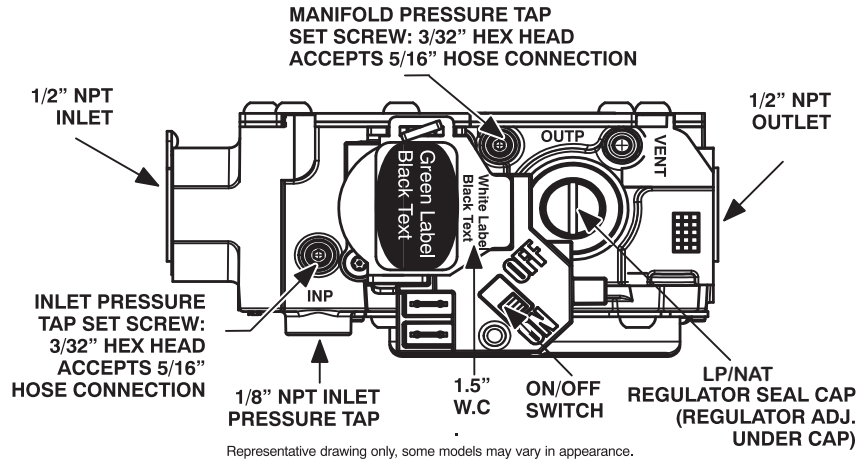

Fig. 2 – Low Capacity Gas Valve with Tower Pressure Ports
2. Loosen set screw on inlet tower pressure tap no more than one full turn with a 3/32-in. hex wrench. (See Fig. 2.)
3. Connect a manometer to the inlet pressure tap on gas valve using a 5/16" hose. (See Fig. 2.)
13. Remove manometer and hose from the inlet pressure tap of the gas valve. (See Fig. 2.)
14. Tighten set screw on inlet tower pressure tap with 3/32-in. hex wrench. (See Fig. 2.)
- b. Loosen set screw on manifold tower pressure tap no more than one full turn with a 3/32-in. hex wrench. (See Fig. 2.) Connect manometer by sliding 5/6" connecting hose over the manifold tower pressure tap.
1. Remove regulator cover screw over plastic adjustment screw on gas valve (see Fig. 2).
2. Turn plastic adjustment screw clockwise to increase gas input, or turn plastic adjustment screw counterclockwise to decrease input (see Fig. 2). Manifold pressure must be between 3.2 and 3.8 IN. WC.
3. Replace regulator cover screw on gas valve (see Fig. 2).
- b. If using the tower pressure port, remove connecting hose. Tighten set screw on manifold pressure tap using a 3/32" hex wrench. (See Fig. 2.)